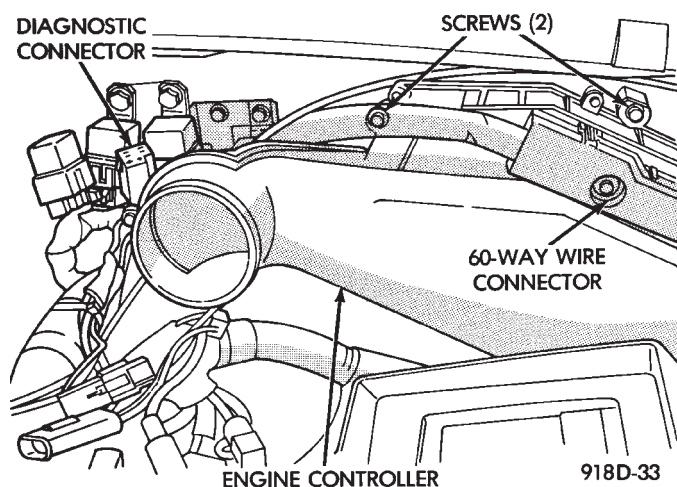

Fig. 1 Removing the Engine Controller
- (1) Remove air cleaner duct or air cleaner assembly.
- (2) Remove battery.
- (3) Remove engine controller mounting screws (Fig. 1).
- (4) Remove 60-way connector from engine controller. Remove controller.
- (1) Connect 60-Way connector to engine controller (Fig. 1).
- (2) Install Engine Controller on inside left front fender. Install and tighten mounting screws.
- (3) Install the battery.
- (4) Install air cleaner duct or air cleaner assembly.